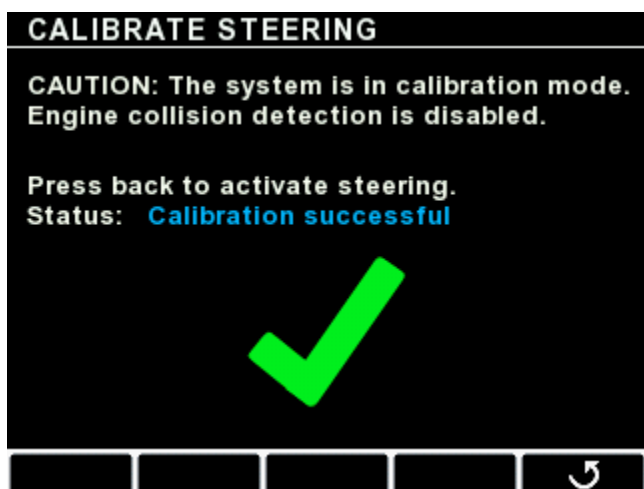

Figure 6-8.
4. If the calibration is successful, you will see the screen in figure 6-8. Exit the screen or power cycle the system to continue.